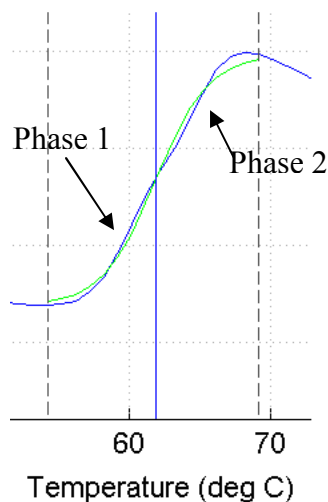

Figure 11: Multiple phases of melt, or, initial melt phase slowly rising
- Observation: If there are multiple melt phases (Figure 11), the auto selected region of analysis selects the entire region over which a rise in fluorescence value was observed. Possible cause: The tool is programmed to select the *largest* contiguous region of rise in fluorescence until the point where the slope becomes negative. Solution: If this is not the desired behavior, it is possible to define a different region of analysis following the instructions in section 4.11.